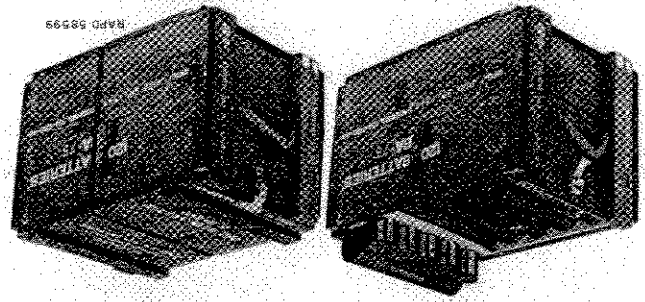

FIG. 13. CONTAINER FOR BATTERY HA-75
b. Batteries are shipped in separate wooden boxes marked, "120 BATTERIES BA-75". Each box contains 24 sealed fiber cylinders with 5 batteries per cylinder (fig. 13). Boxes and battery decalcomanias are marked with date of battery manufacture and battery nomenclature.